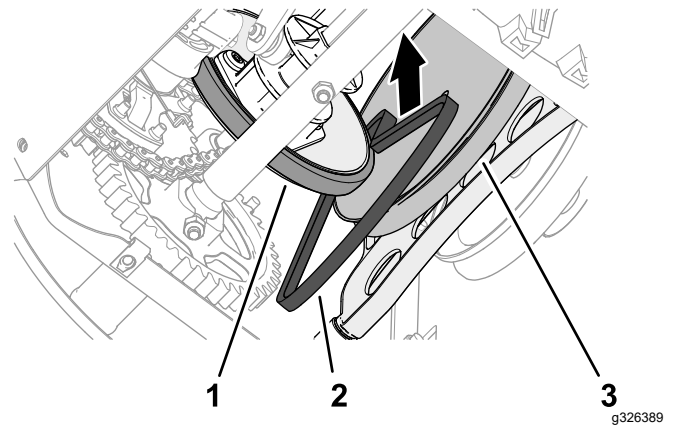

Figure 49
1. Slip the traction belt between the friction wheel and the traction pulley, and into the machine (Figure 49).